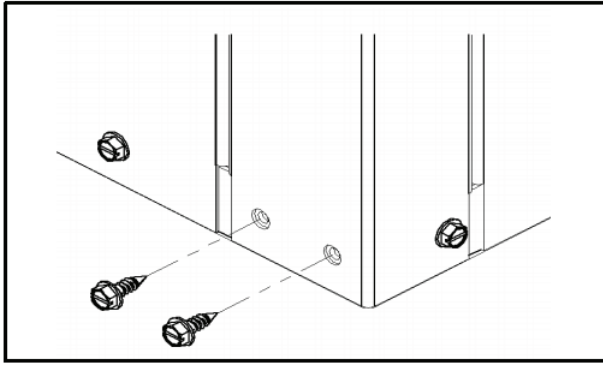

Fig. 7 — Removing Factory Screws
1. Remove and discard factory-provided screws from location where hanging brackets will be installed. See Fig. 7.